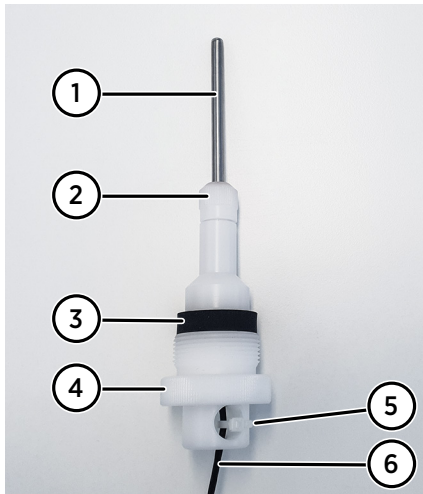

Figure 28 HMP9 probe head with sensor head support 215130
2. Attach the probe head to the sensor head support and secure it with a cable tie. The alternate sensor head support (item code 215130) needed with HMP9 is shown in Figure 28 \(page 52\).